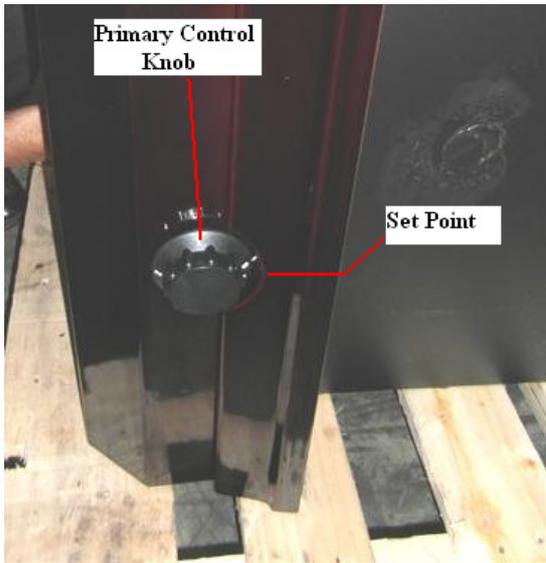

Figure 1
2. Open the primary air control by turning it clockwise fully (see Figure 1).